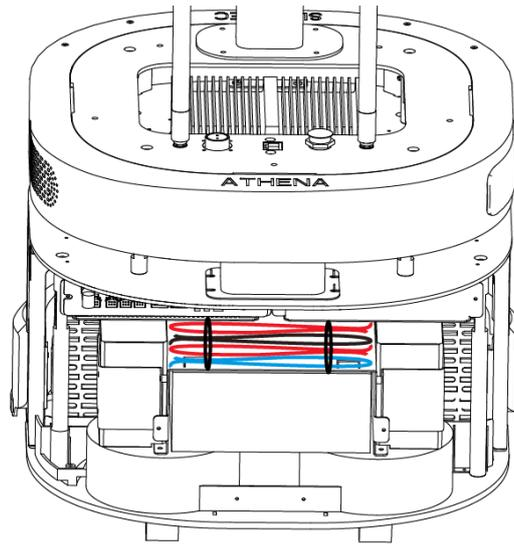

Figure 18
- As shown in Figure 18, please tidy the cables.